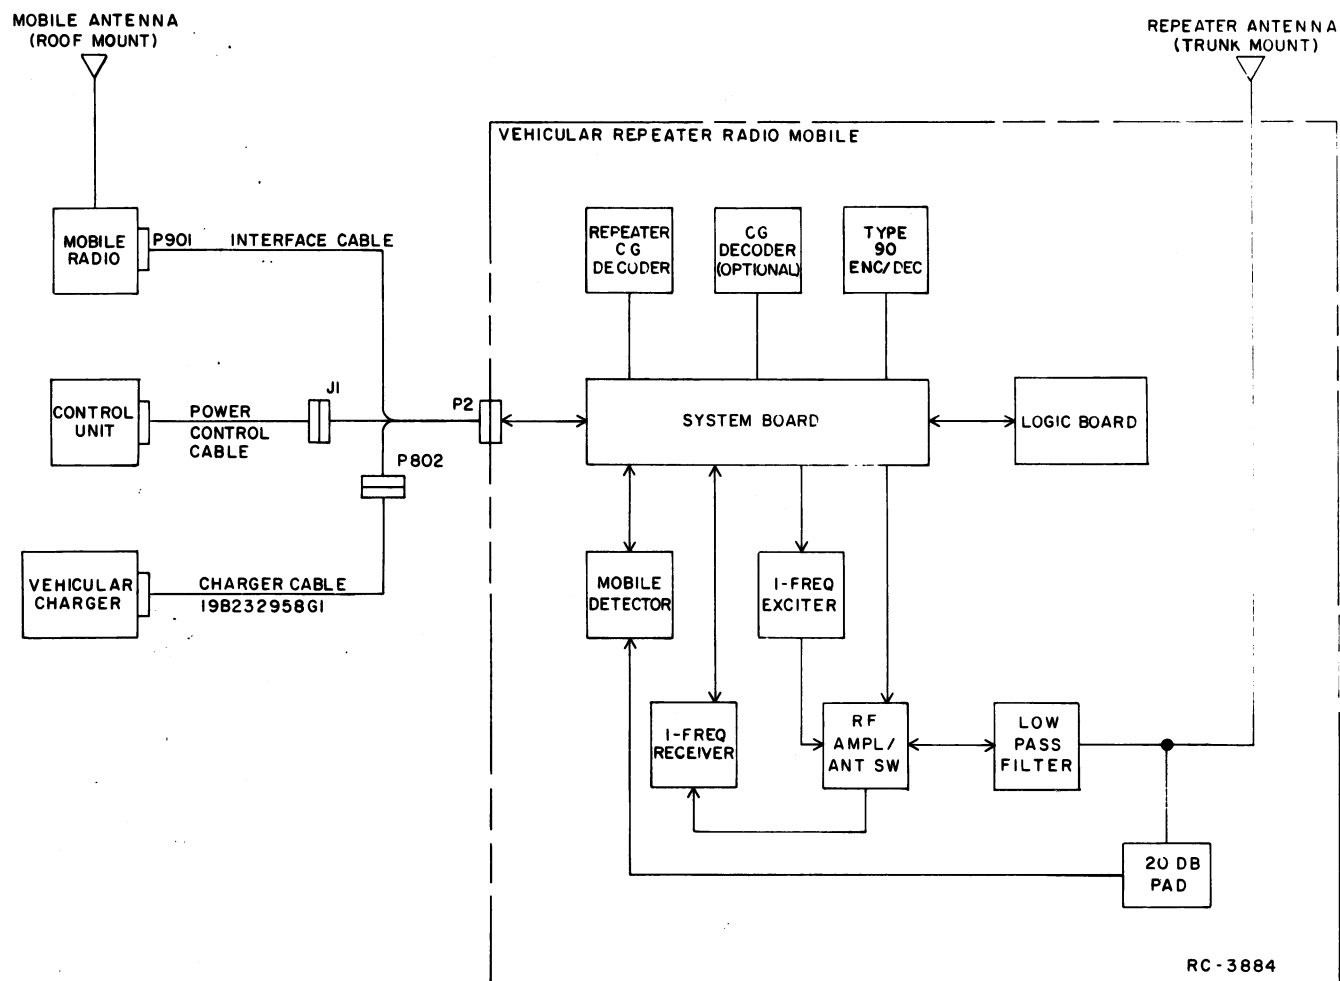
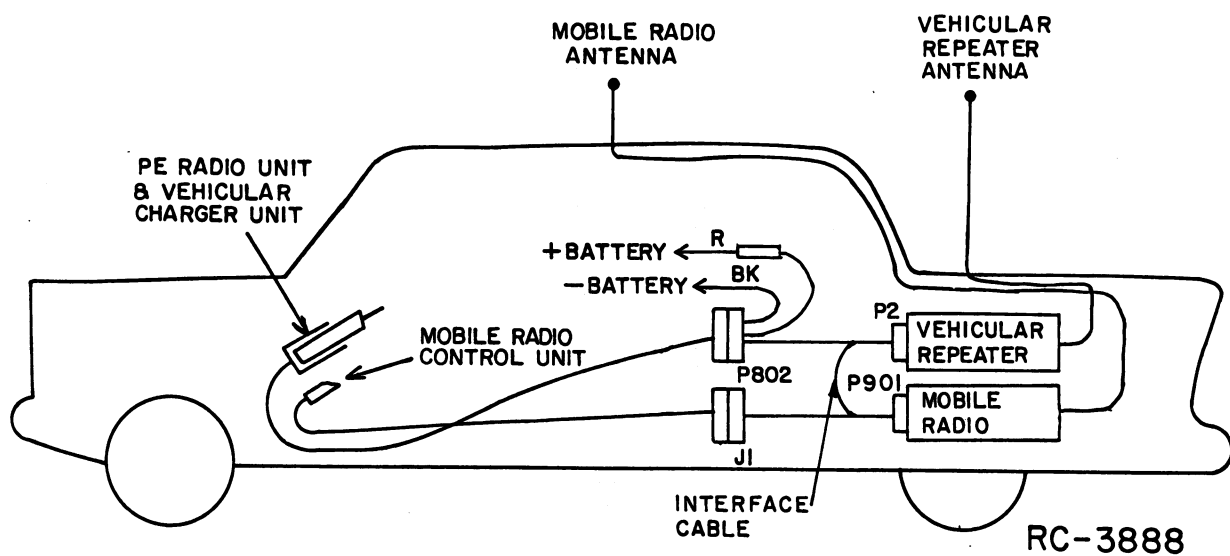

Figure 2 - Vehicular Repeater System Block Diagram
Figure 3 - Typical Installation in Vehicle
The Vehicular Repeater System consists of the MASTR Executive II Vehicular Repeater Radio, a Mobile Radio, Control Unit, a MASTR Personal Series (PE) Portable Radio Unit with its associated Vehicular Charger Unit and associated power/control cables (see Figure 2). The Vehicular Repeater System retransmits (repeats) portable-to-base and base-to-portable transmissions to a vehicle operator, using the PE radio, away from his vehicle. This permits the operator to be in constant contact with other units or networks when it is not feasible to remain with the vehicle. A typical mobile installation is shown in Figure 3.
Executive II radio. A typical installation is shown in Figure 3. Refer to the MASTR Executive II Installations for details.